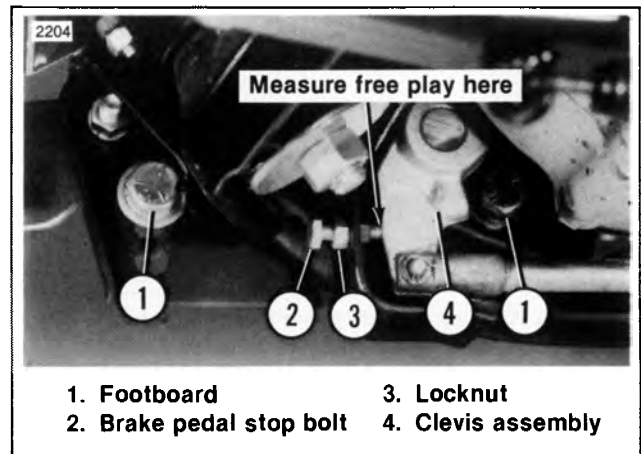

Figure 2-43. Rear Brake Free Play Adjustment — FLT
2. See Figure 2-43. To change pedal height remove screw from clevis assembly (4). Remove clevis assembly from brake pedal shaft and rotate pedal to new position.